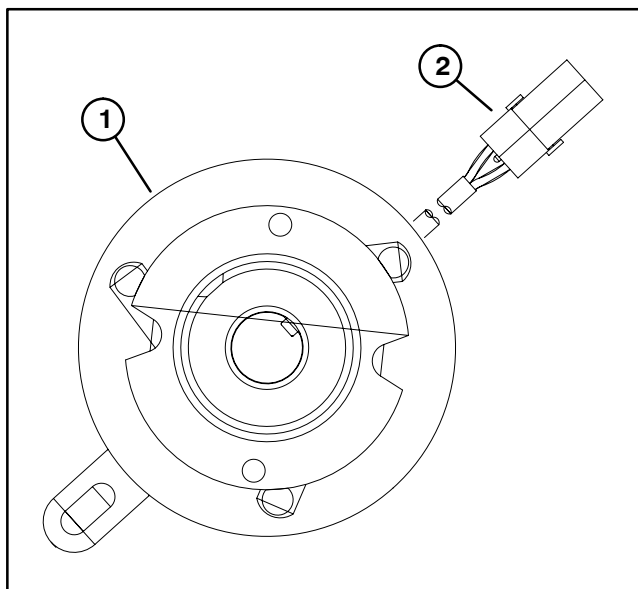

Figure 21
1. Locate clutch on pump drive gearbox shaft. Unplug clutch connector from machine wire harness (Fig. 21).